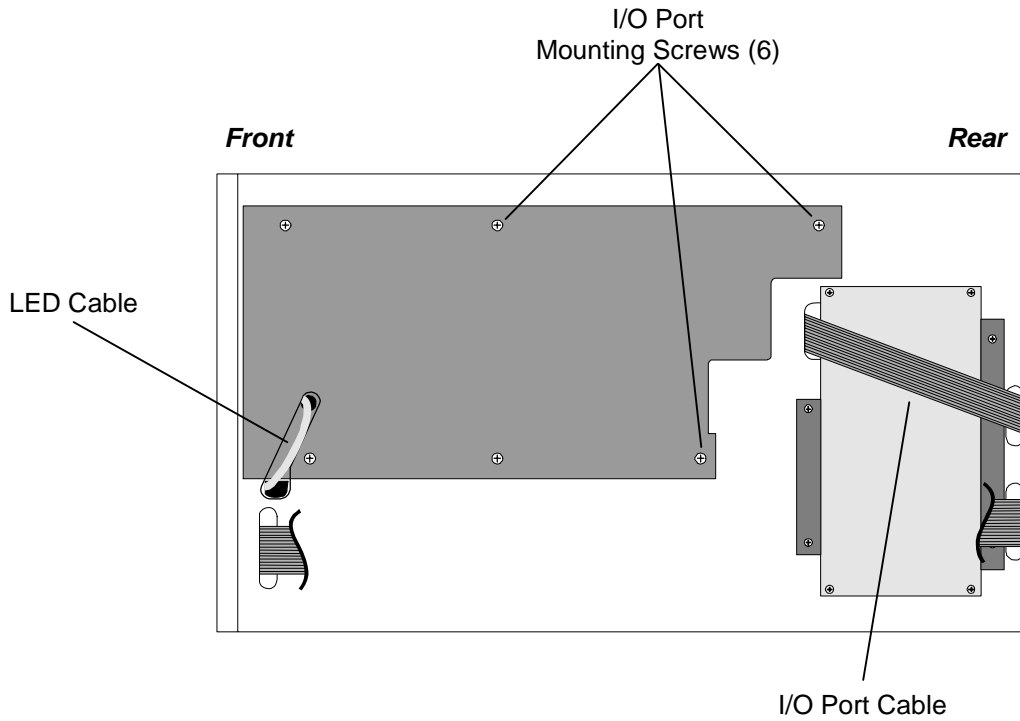

Figure 7-28 Single Bay TLS Cabinet – Top View
6. Support the I/O port assembly from the inside of the TLS with one hand, then remove all six I/O port mounting screws from the top of the TLS using a number 2 Phillips screwdriver (Figure 7-28).
4. Make sure that the LEDs cable is positioned in the center of the cutout in the TLS' frame (Figure 7-28).
5. Support the I/O port assembly with one hand from inside the TLS, while installing all six mounting screws from above using a number 2 Phillips screwdriver (Figure 7-28).